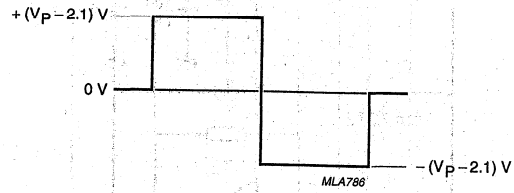

Fig.4 Maximum output voltage swing across R_L .
1. The output voltage swing is typically limited to $2 \times (V_p - 2.1)\text{ V}$, (see Fig.4).